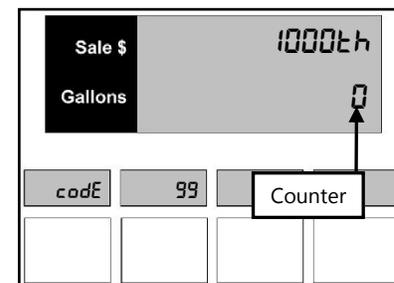

Figure 99.2 – Decimal Place Location
2. To change the decimal placement, use the 1, 2 or 3 button on the keypad to enter a new option. Press **Enter**. The display moves to the Decimal Place Configuration as shown in *Figure 99.2*.